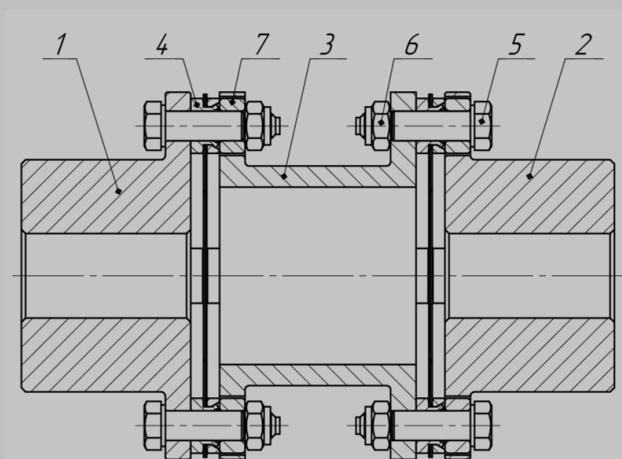

Figure 1
3.1.2. The coupling comprises motor hub **1**, mechanism hub **2**, spacer **3**, two plate pack units **4**, close fitting bolts **5**, collar nuts **6** and bushings **7** (**Fig. 1**).
3.2.3. The torque transmission by plate (flexible element) is carried out by means of the tension and compression efforts of its sections between bushings connected by bolts **5** with spacer **3** and hubs **1, 2** (**Fig. 1,2**).
3.2.5. In case of emergency damage to the plate pack, torque can be transmitted by bolts **5** via bushings **7** (**Fig. 1**).
- Turn one of the shafts until marks on the hub match (**Fig. 1**). Before installation, all details must be located as given: spacer **3** – according the marks, plate pack units – so that bushing **7**, after its installation, was located on the washer side **10** (**Fig. 1, 2**). Fit bushings **7** onto bolts **5** (what is half of the total amount).
- Lead spacer **3** into the space between the hubs (marks must be in line with each other) and, keeping it in such a way, lead the plate pack unit **4** into the space between the flange and one of the hubs. The plate pack unit must be located as mentioned in the previous paragraph. Insert appropriate bolt **5** (with bushing **7** or without it) into the upper hole of the hub, according to **Fig.1**. In doing this, the bolt has to go through the appropriate holes of plate pack unit **4** and spacer **3**. Set, if it's necessary, bushing **7** on the bolt, screwing nut **6** tentatively. Set another plate pack